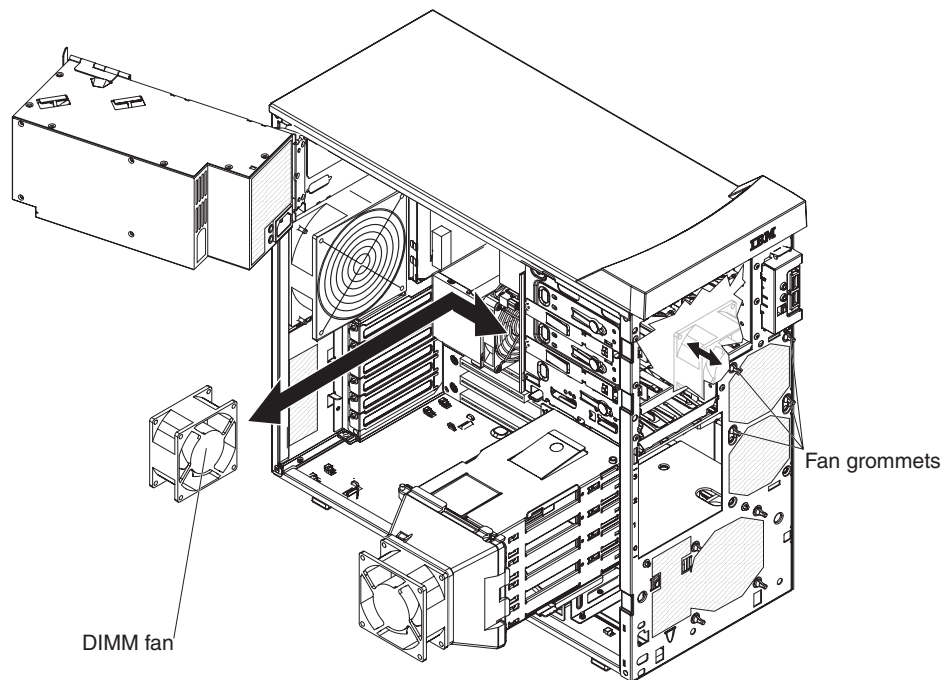

Figure 50. Installing the DIMM fan
1. Position the fan so that the grommets protrude through the holes in the chassis; then, use needle-nose pliers to pull the grommets through the holes from outside the chassis (see Figure 50).